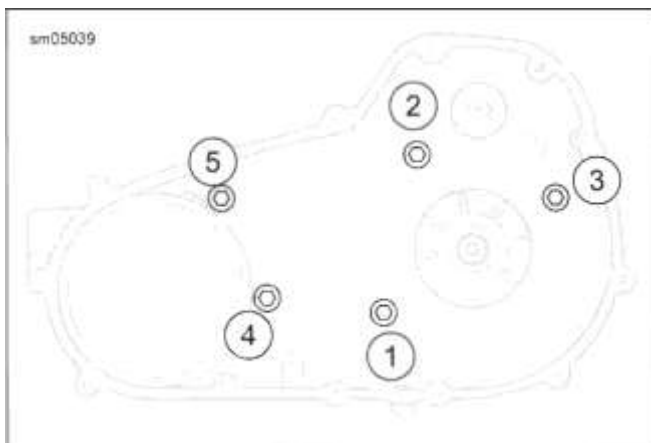

Figure 5-29. Sealing Screw Tightening Sequence
- e. See Figure 5-29. Tighten in sequence shown.